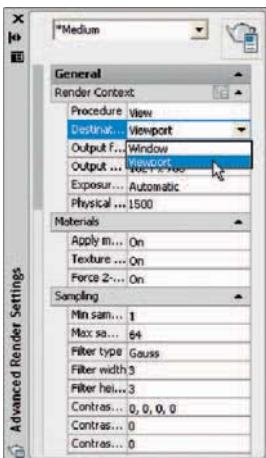

Fig. 15.24 The Advanced Render Settings palette
8. In the **Render Context** field click the arrow to the right of **Window** and in the pop-up menu which appears click **Viewport** as the rendering destination (Fig. 15.24).